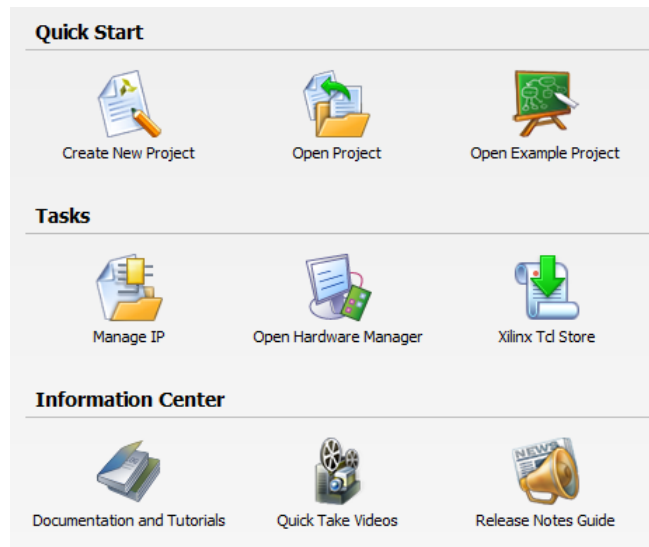

Figure 3: Vivado Quick Start Page
1. Open the Vivado IDE by clicking the desktop icon or by typing **vivado** at a terminal command line. From the Quick Start page (Figure 3), select **Create New Project**. The New Project wizard opens.